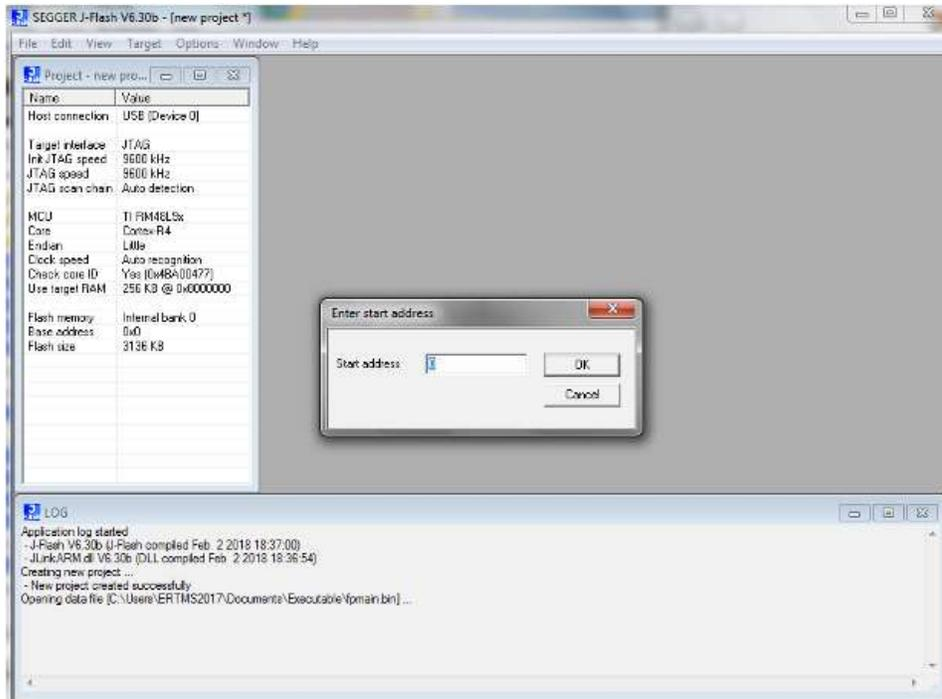

Figure 9: Enter start address [LoadFile\_2]
10. The pop-up "Enter start address" appears. Enter "0" (zero) and click "OK" (Figure 9, STMA-69046);